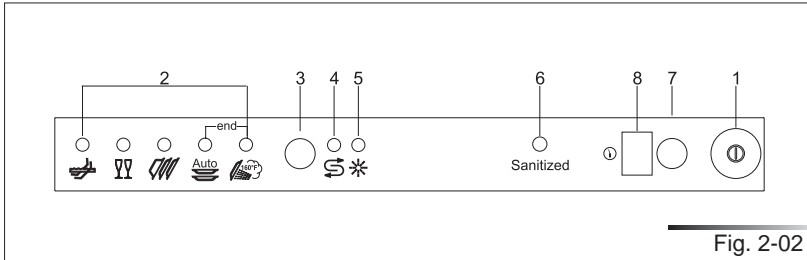
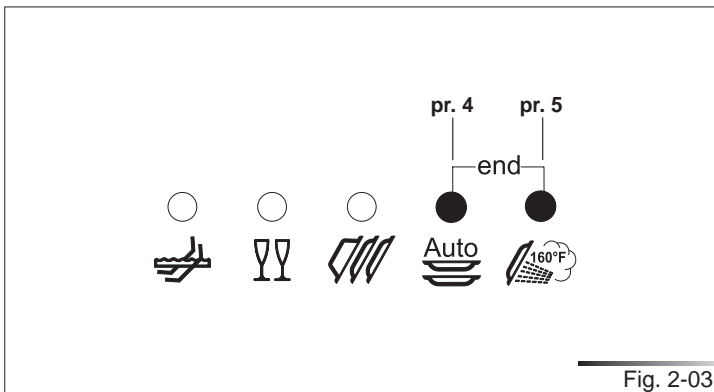
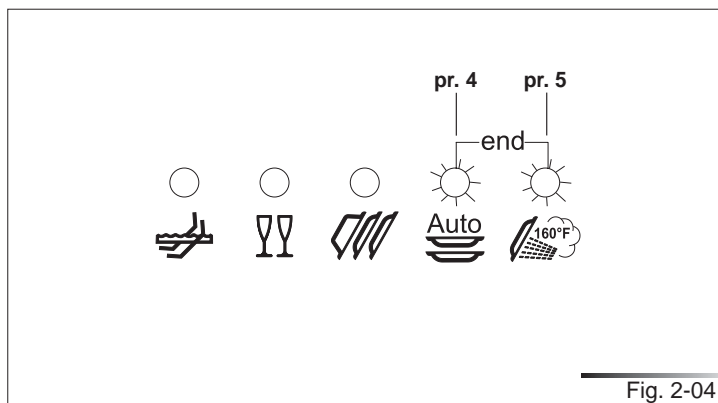

Fig. 2-02
Fig. 2-03
Fig. 2-04
The dishwasher is equipped with a control panel (see fig. 2-02) which is used to program the appliance and switch it on and off.
Press the on/off button (ref. 1 fig. 2-02) to start the dishwasher. Then wait for one of the **program indicator lights** to turn on (ref. 2 fig. 2-02).
- Press the **program selection button** (ref. 3 fig. 2-02) several times until the indicator light corresponding to the required program turns on (ref. 2 fig. 2-02);
- To cancel the current program, open the door and press and hold down the **program selection** button (ref. 3 fig. 2-02) for a few seconds until the indicator lights of the fourth and fifth programs turn on (ref. pr. 4, pr. 5 fig. 2-03).
- After about 1 minute, the dishwasher terminates the cycle and the indicator lights of the fourth and fifth programs (ref. pr. 4, pr. 5 fig. 2-03) start flashing.
Before programming a delay, open the door of the dishwasher, select the required washing program (see para 2.2 “Setting the washing program and switching on and off”). Select the day by pressing the **Program delay** button (ref. 7 fig. 2-02); each time you press the button, the display increases the delay before the appliance starts by **1 hour**.
At the end of the program, the dishwasher emits a short beep and the **indicator lights of the fourth and fifth program** (ref. pr. 4, pr. 5 fig. 2-04) flash. Turn off the appliance by opening the door and pressing the **on/off button** (ref. 1 fig. 2-02).